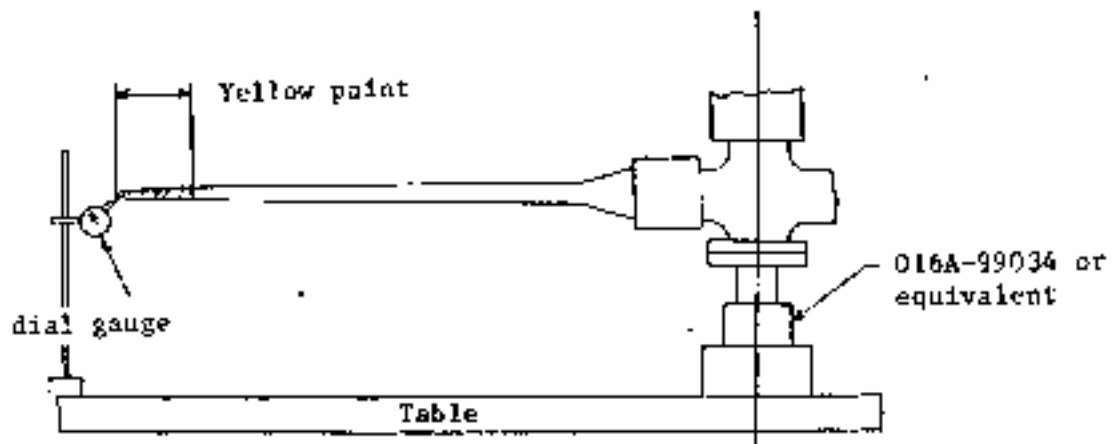

Fig. 6-62
- (1) Insert pitch adjusting screw (016A-99190 or equivalent) from the tip of piston and set blade pitch angle to approximately 30° position. (See Fig. 6-62)
- (2) Measure difference in amount of blade tracks as shown in Fig. 6-62. Measurement may be made at inboard end of yellow painted section of leading edge.
- (3) Blade track shall meet the requirement of Para. 13.14 (3).